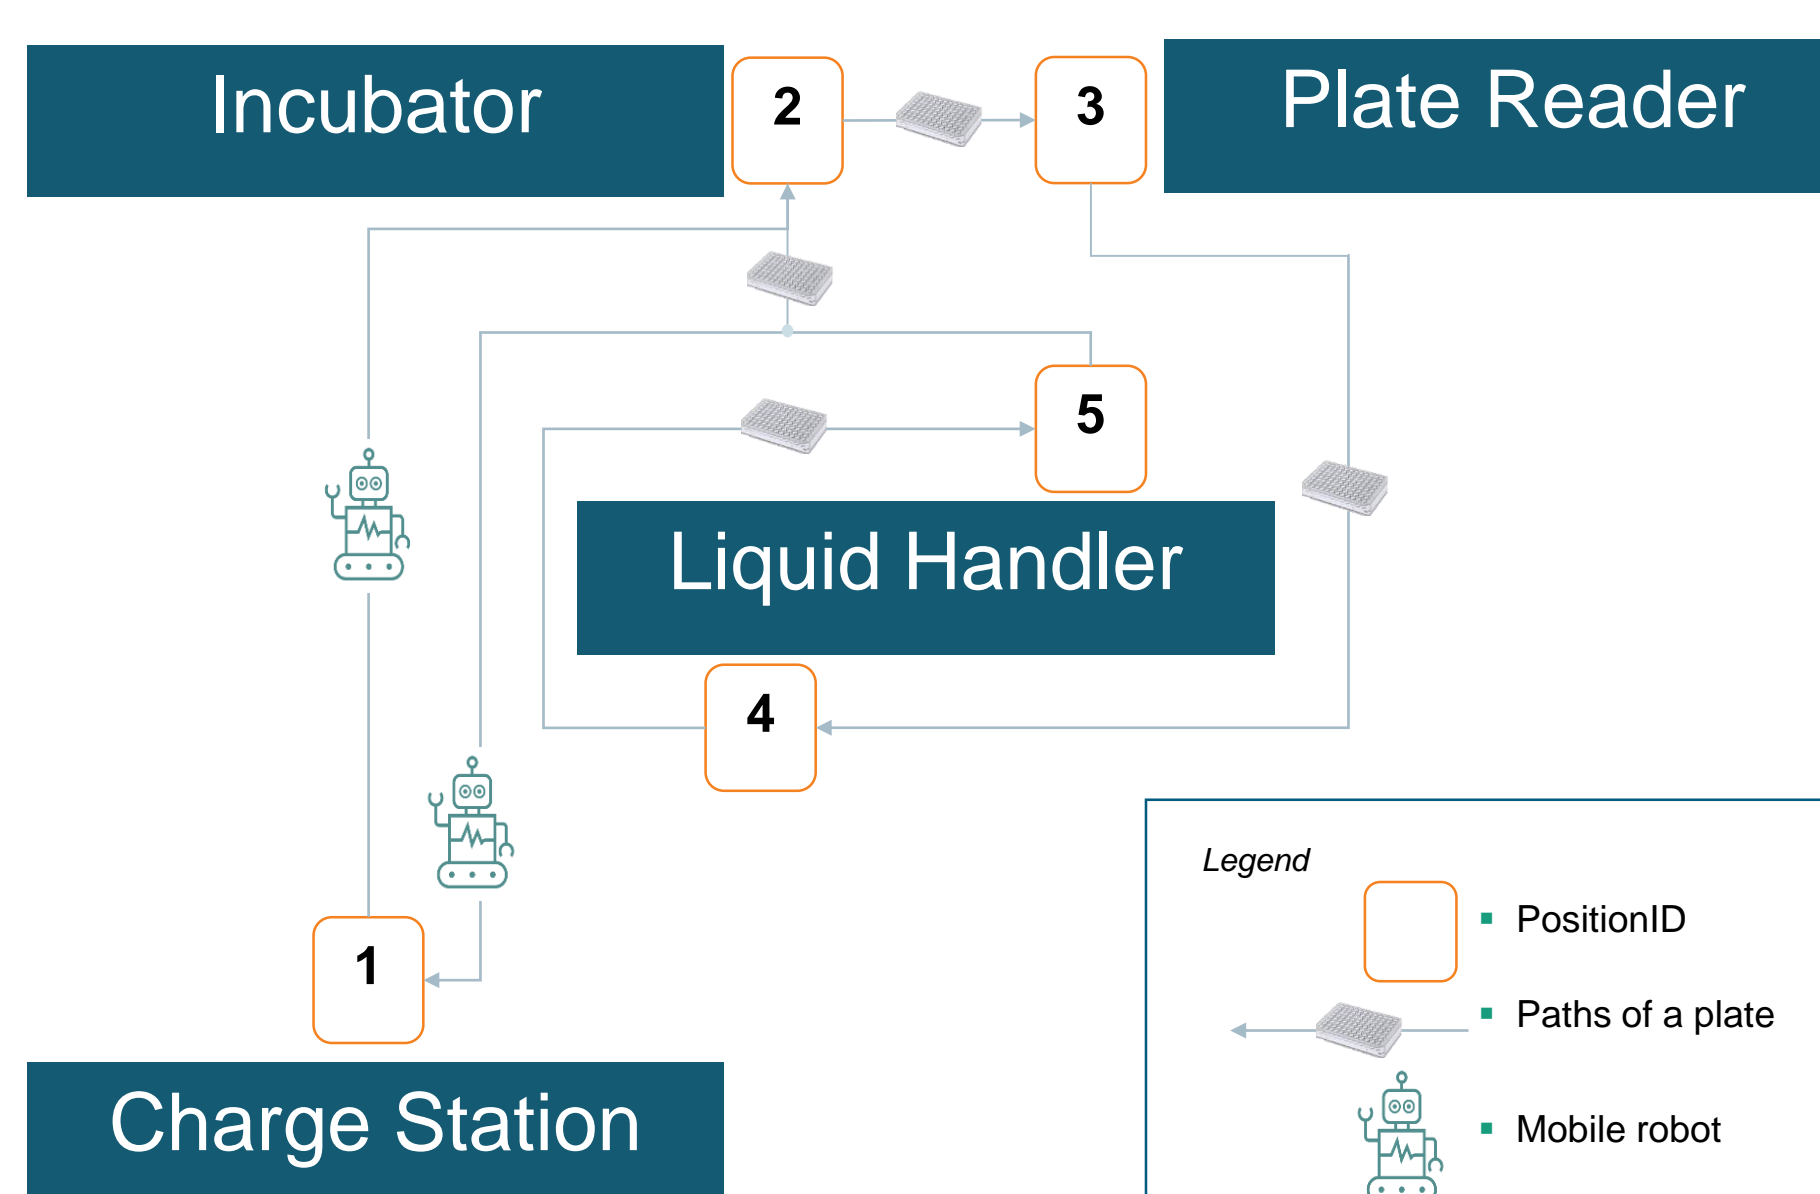

Figure 1: Process flow of media exchange use case in an existing laboratory
- Based on the results evaluated there (e.g. confluence), the plate is transferred to the liquid handler, replacing the used medium with new one (Figure 1)